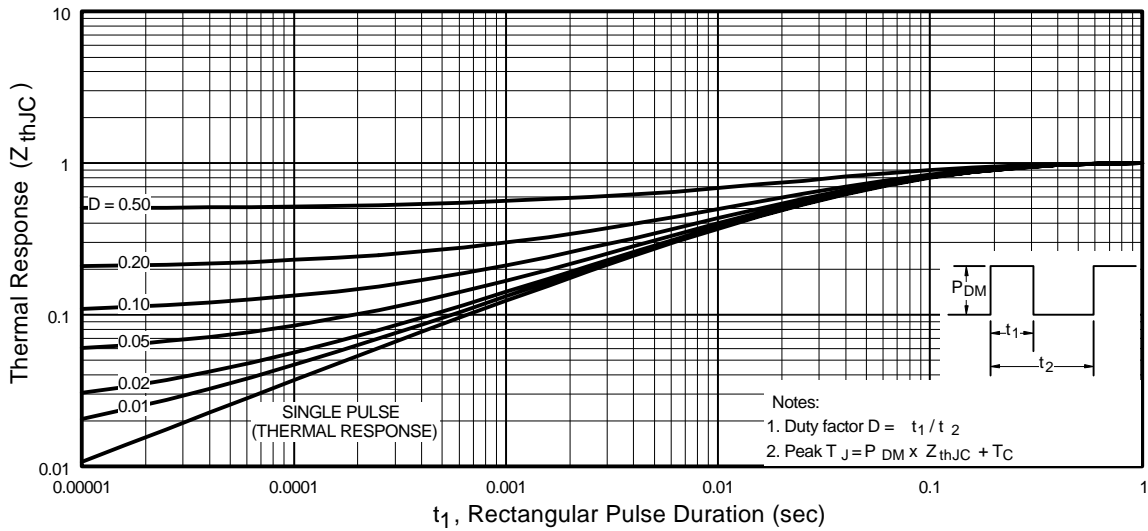

Fig 11. Maximum Effective Transient Thermal Impedance, Junction-to-Case
- ① Repetitive rating; pulse width limited by max. junction temperature. (See fig. 11)
- ② Starting $T_J = 25^\circ\text{C}$, $L = 16 \text{ mH}$